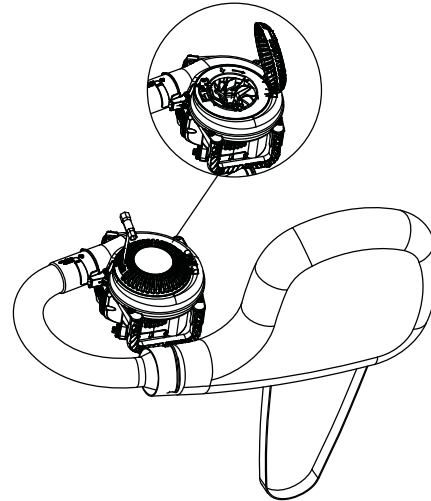

Fig. 6
3. Insert the tip of a flathead screwdriver or the spark plug wrench (provided) vertically into the slot of the air intake cover, turn the tool counterclockwise to unlock the air intake cover and open (Fig.6).